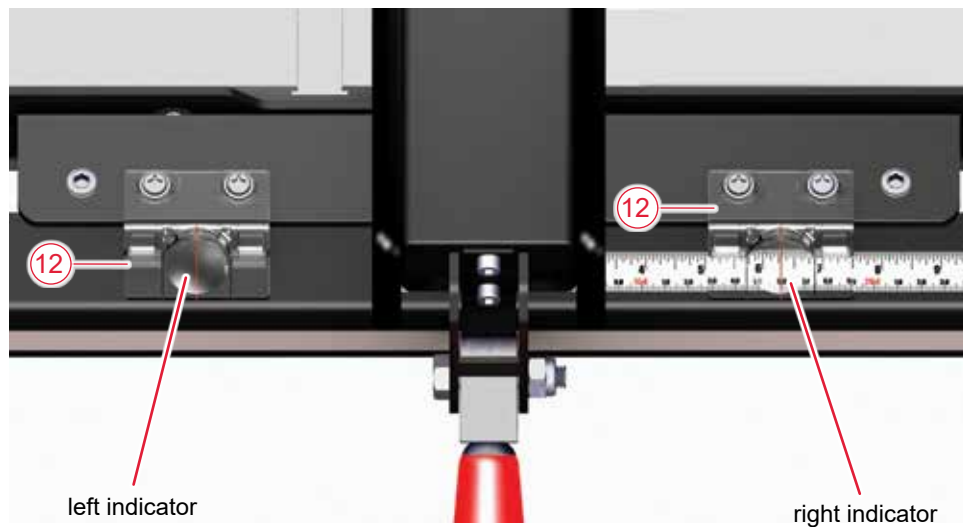

Fig. 30
The fence allows you to precisely set the width of your rip cuts (cuts that are length-wise along the grain of the wood). The precise width of cut is shown by the position indicator lenses (12) on the front of the fence (Fig. 30). The lens on the left indicates the width of cut when the fence is on the left side of the blade. The lens on the right indicates the width of cut when the fence is on the right side of the blade. Each indicator lens is positioned above a ruler on the front tube. Each lens has a red cursor line that indicates the precise width of cut. To read the width of cut, look down at the cursor line. The mark on the ruler that is directly below the cursor line is the width of cut.